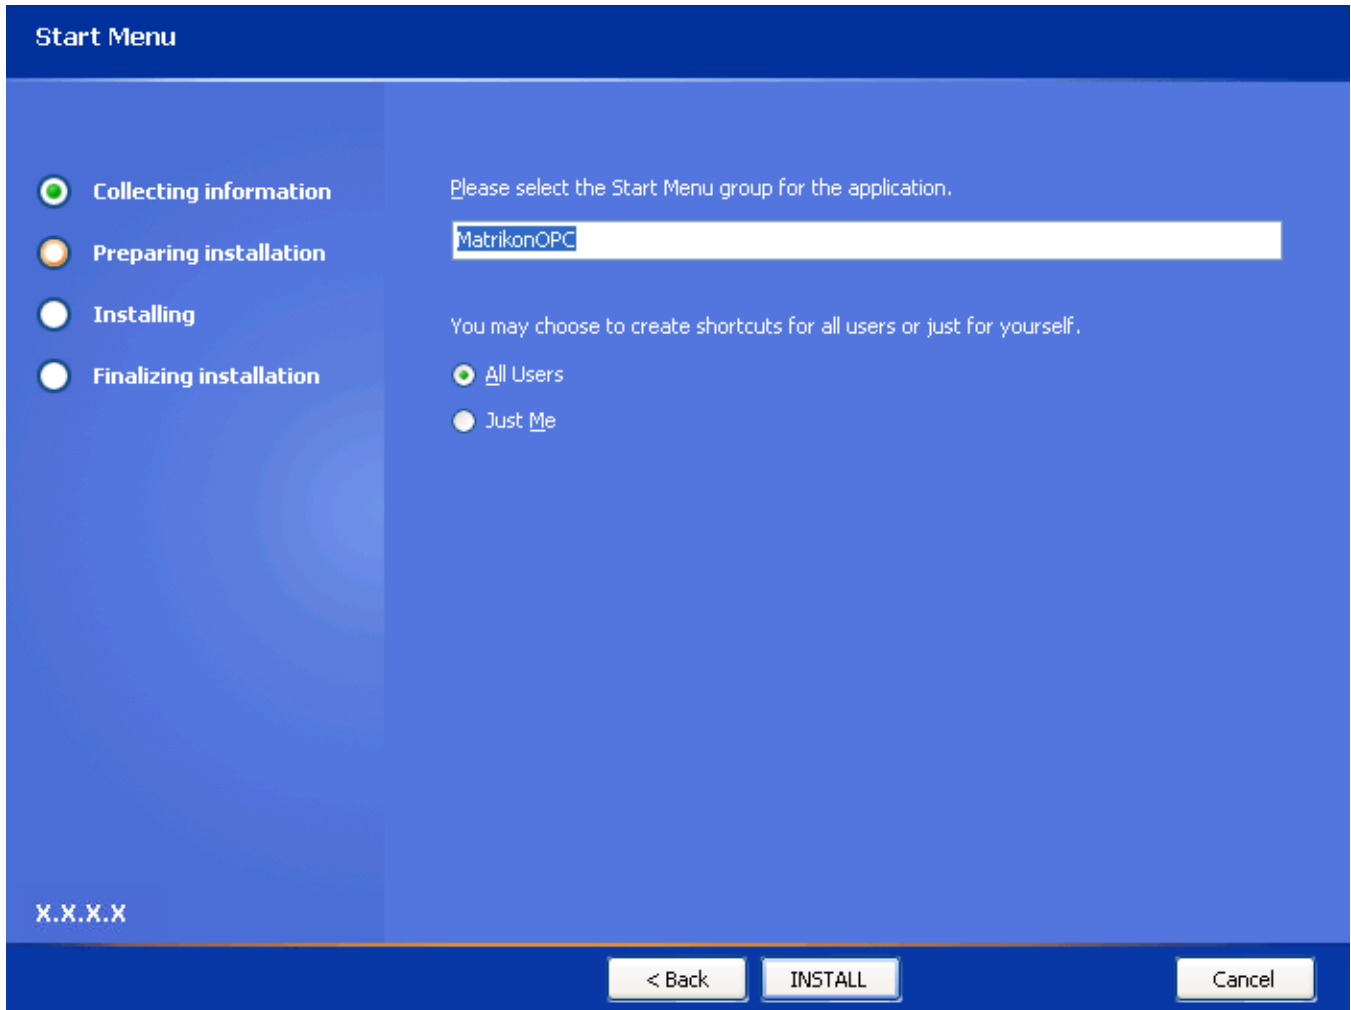

Figure 4 - Start Menu Screen
8. Click on the **Next** button. The **Start Menu** screen (Figure 4) appears.